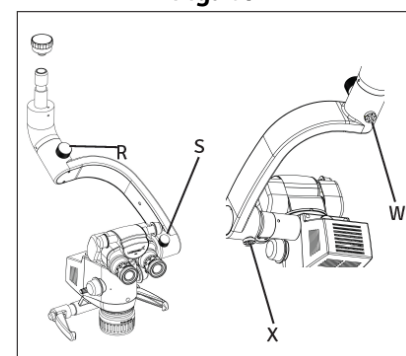

Fig. 41
- Counter Balancing mechanism is provided with Hex Screws X and W to adjust force with clockwise/anticlockwise rotation on carrier Arm to take care of extra loads of accessories Refer Fig.41.